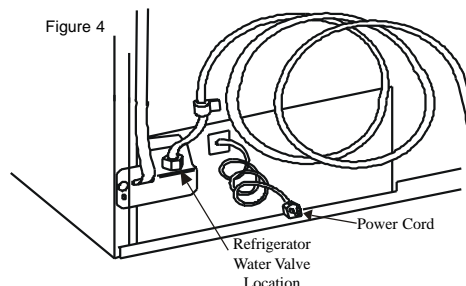

Figure 4
- Unit supplied with a 5 foot power cord (location shown in Figure 4).
- The extra tubing should be coiled into 3 turns of about 10 inches (25 cm) diameter to allow the refrigerator to move out from the wall after installation (as shown in Figure 4).